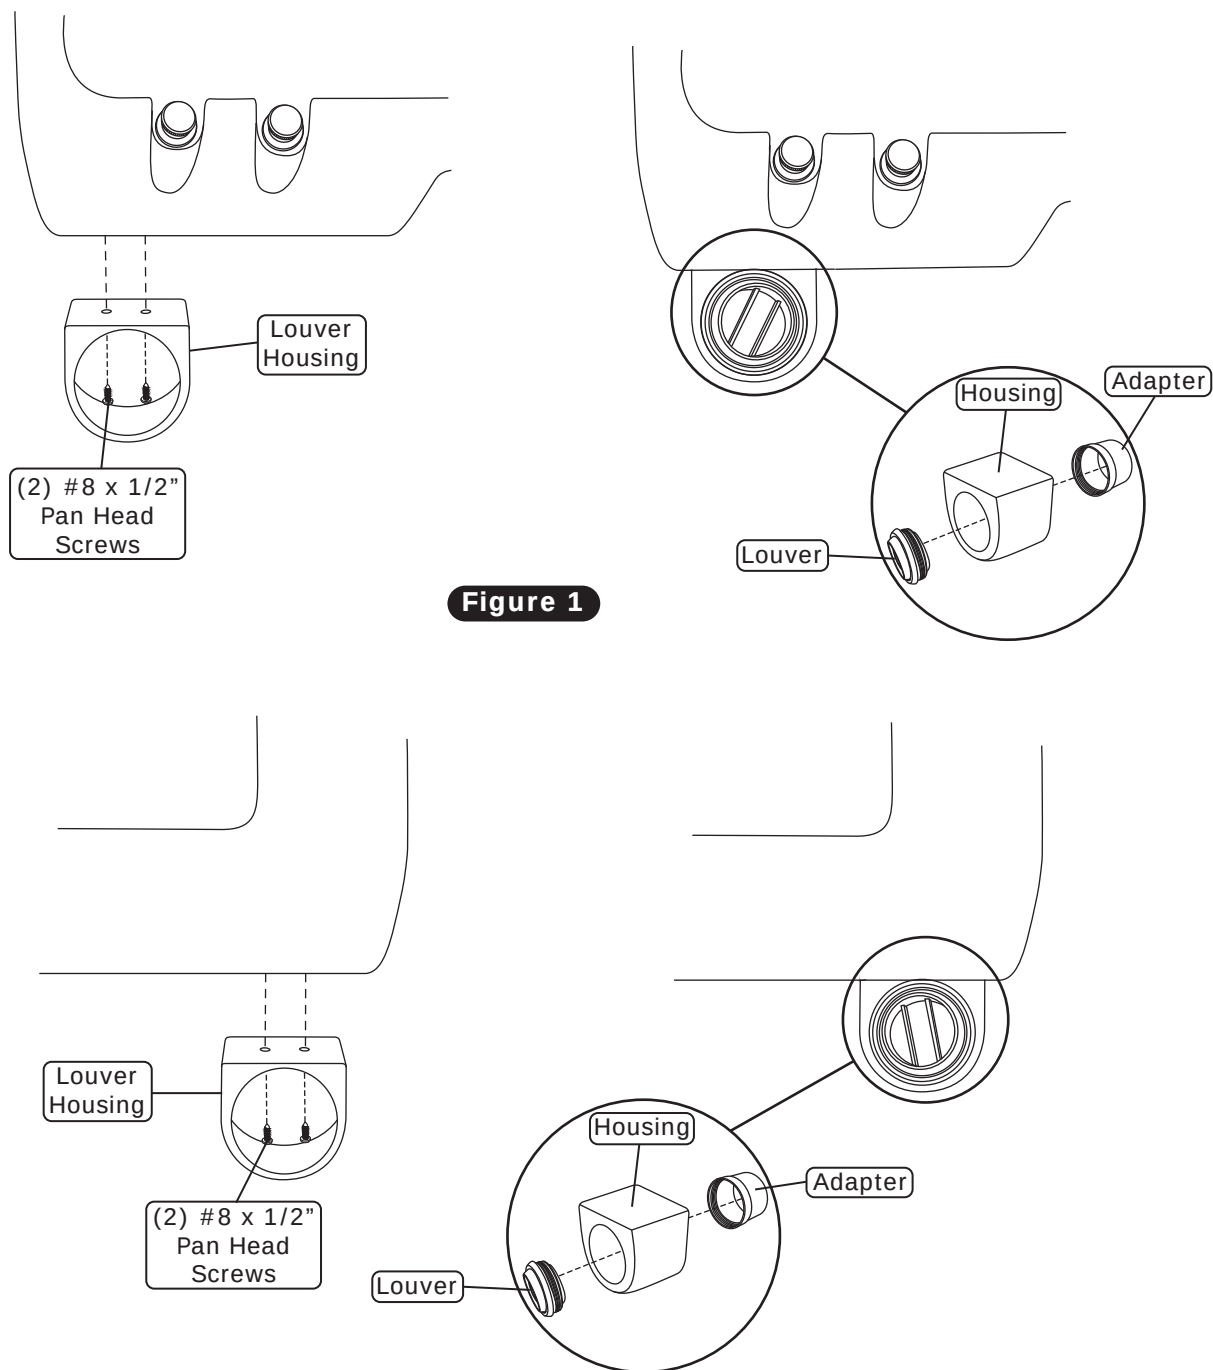

Figure 1
1. Mount the center louver bezel under the dash using (2) #8 x 1/2" pan head screws as shown in Figure 1, below.
2. Install the louvers into the center louver bezel as shown in Figure 1, below.
1. Mount the driver- and passenger-side center louver bezels under the dash using (4) #8 x 1/2" pan head screws as shown in Figure 1, below.
2. Install the louvers into the center louver bezels as shown in Figure 1, below.
1. Mount the driver- and passenger-side louver housings under the dash using (2) #8 x 1/2" pan head screws as shown in Figure 1, below.
2. Install the louvers into the driver and passenger side louver housings as shown in Figure 1, below.